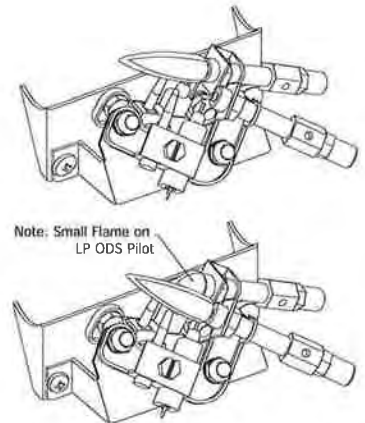
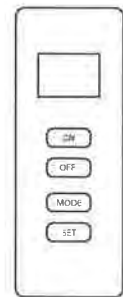

Fig. 27 - Pilot
Fig. 28 - Remote
6. With control knob depressed, push down on the ignitor button until the pilot lights. The pilot's location is behind log #3 near the center of the burner. (See Fig. 27).
7. Keep control knob depressed for (30) seconds after pilot lights. Release control knob.
- If pilot goes out repeat steps 3 through 7. Wait (1) minute before attempting to light pilot again. If after several tries the pilot still goes out, turn the gas control knob clockwise  to the "OFF" position and call a qualified service technician.
9. To use the included thermostatic remote control, set receiver switch to the "REMOTE" position (See Fig. 28). Press the ON button to turn on the remote to ignite the main burner. Refer to the remote control instruction manual on the next page for "MODE" and "SET" functions.